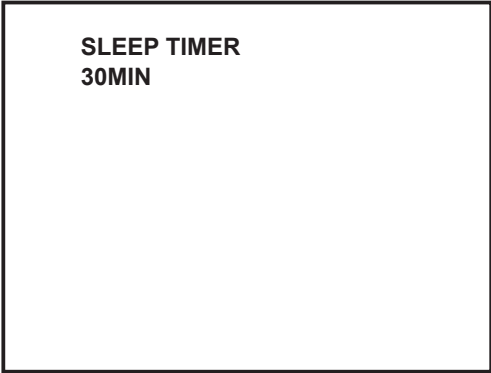

Fig.1
- (1) Set the <SLEEP TIMER 30MIN> with [SLEEP TIMER] key. (Fig.1)
- (2) During the <SLEEP TIMER 30MIN> display, press [DISPLAY] key and [VIDEO STATUS] key at the same time.